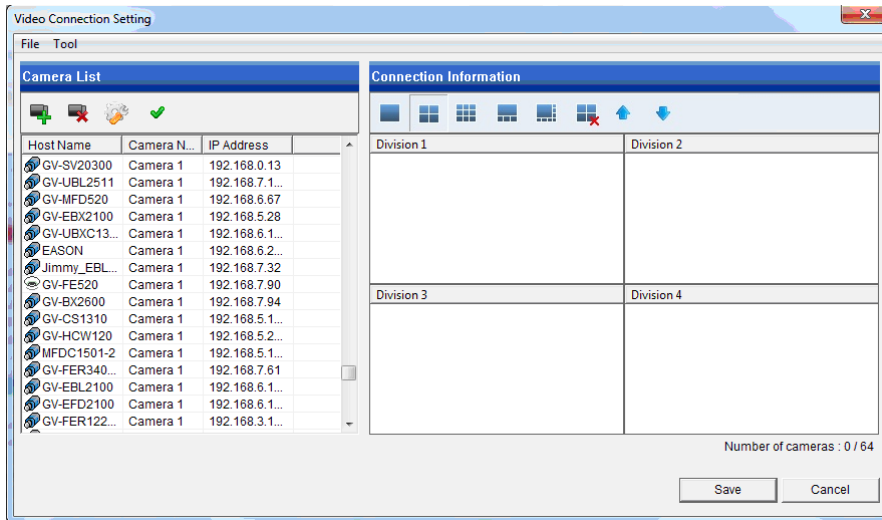

Figure 2-13
1. Click the **Add Camera** button  on the Video Connection Setting window (Figure 2-13). This dialog box appears.